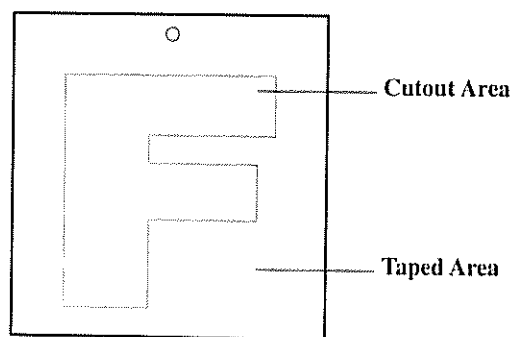

Figure 1.
2. Draw a simple design (such as your initials or name) on the masking tape with a pencil. Designs may be drawn on both sides of the piece of galvanized iron if desired. The design that is drawn will be the part of the ornament that is copper-colored. See Figure 1.
3. Use a scalpel to cut along the pencil marks. Remove the masking tape inside the drawing so that the design is uncovered. See Figure 1.